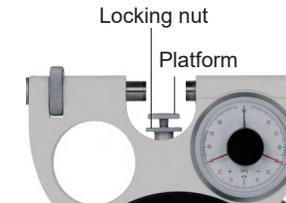

Fig.2
- Use the platform to limit the position for mass measurement. Loosen locking nut, rotate the platform to the proper position, and then turn the locking nut to tighten the platform(Fig.2).